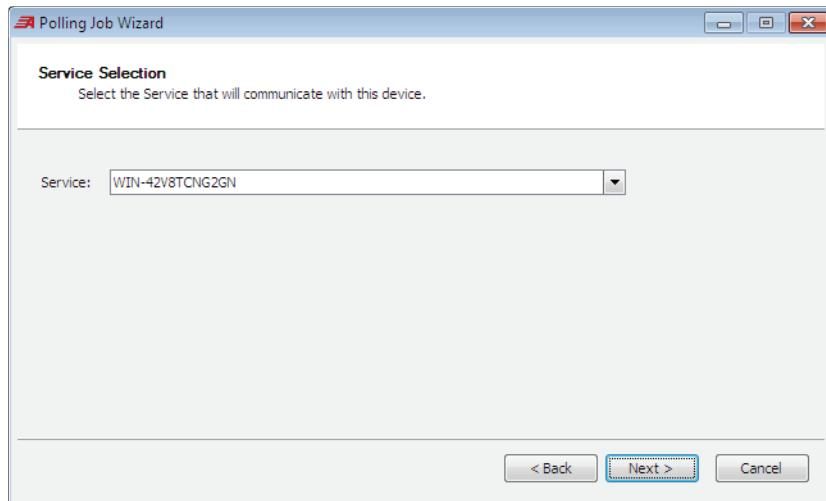

Figure 38 Service Selection Window
Step 10. Select **Next** after the **Polling Job Wizard** opens to go to the **Service Selection** window. Select the available service from the drop-down menu shown in *Figure 38* and select **Next**.